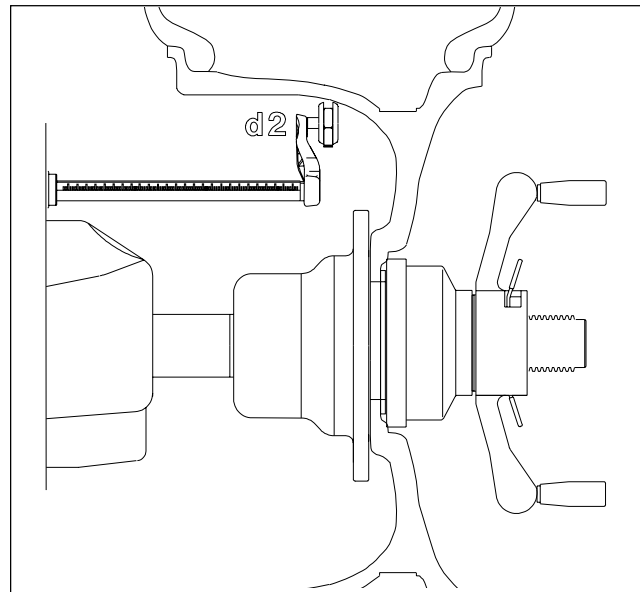

Figure 32
3. Move the parameter arm to the right weight position, the machine displays "**d - 2**" as the arm is moved. See Figure 32. The high tone will sound when dimensions are entered. Return the gauge arm to the rest position, a low pitch tone will indicate when it is OK to proceed.